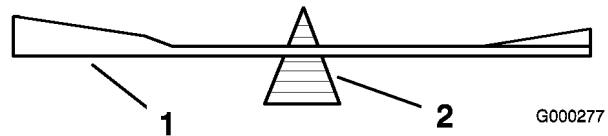
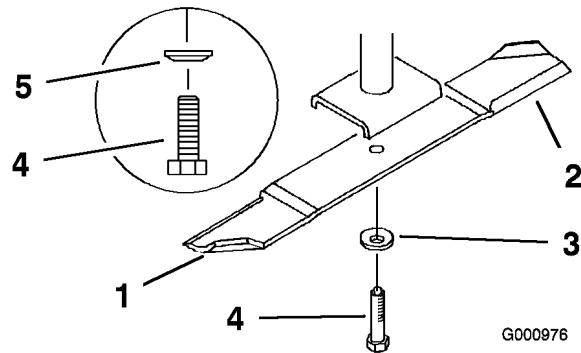

Figure 67
Figure 68
2. Remove the blade bolt, spring disk and blade from the spindle shaft (Figure 68).
2. Check the balance of the blade by putting it on a blade balancer (Figure 67). If the blade stays in a horizontal position, the blade is balanced and can be used. If the blade is not balanced, file some metal off the end of the sail area only (Figure 68). Repeat this procedure until the blade is balanced.
1. Install the blade onto the spindle shaft (Figure 68).
2. Install the spring disk and blade bolt. The spring disk cone must be installed toward the bolt head (Figure 68). Torque the blade bolt to 85-110 ft-lb (115-150 N·m).